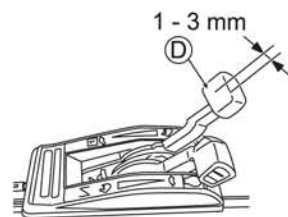

Fig. 28
Adjust the play of Gearshift lever (D) to 1 - 3 mm as shown in Fig. 28.
3. Start the engine and confirm that running speed changes when Gearshift lever (D) is operated.